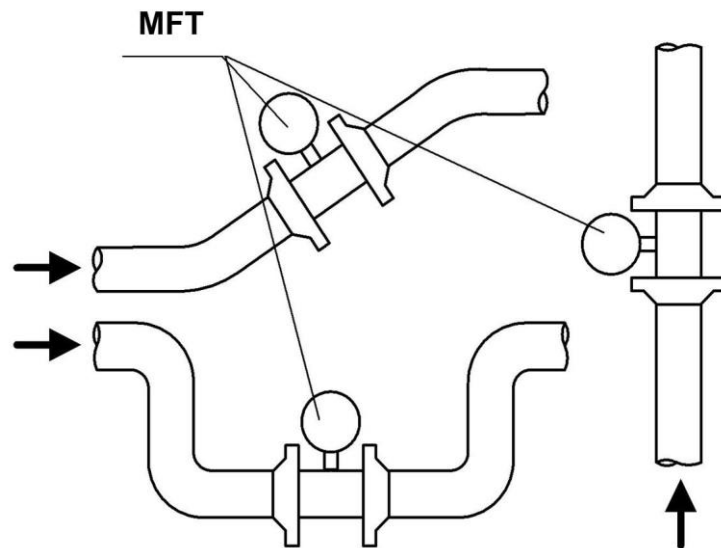

Fig.1. Recommended MFT locations
- To prevent air collection at the mounting location, the flowmeter should not be placed at the upper point of the pipeline or in the open-ended pipeline; the best place to mount the flowmeter (if applicable) is the lower or the uprising pipeline run (see Fig.1)